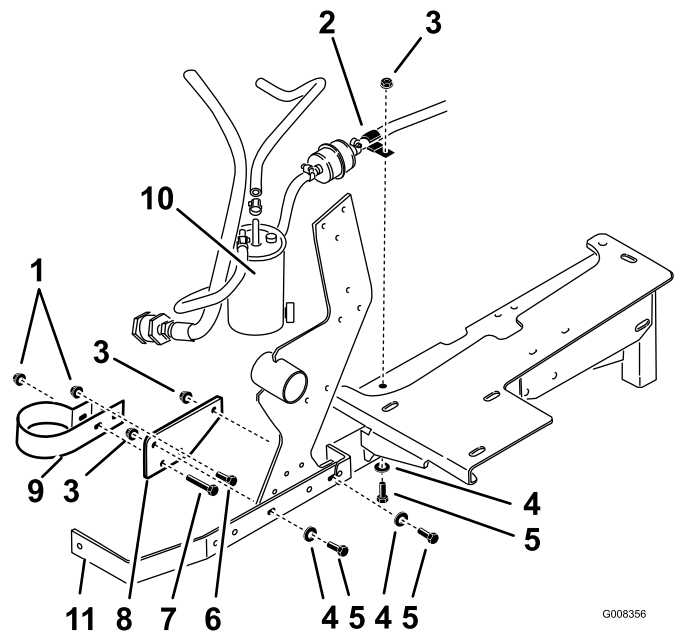

Figure 6
1. Remove the existing hardware from the engine strap (Figure 6).
2. Install the mounting bracket to the engine strap with the previously removed hardware (Figure 6).
3. Install the water separator into the fuel filter clamp and install it to the mounting bracket with a bolt (5/16 x 1-3/4 inches), a bolt (5/16 x 3/4 inch), and 2 locknuts (5/16 inch) (Figure 6).
2. Remove the existing hardware and install the J-clamp to the engine frame (Figure 6 and Figure 7).